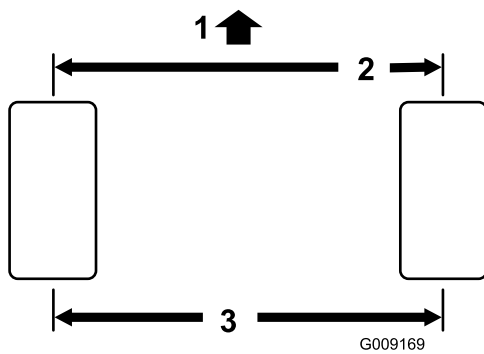

Figure 50
2. Measure the center-to-center distance (at axle height) at the front and rear of the steering tires (Figure 50). The measurement must be within 0 ± 0.12 inch (0 ± 3 mm) at the front of the tire then at the rear of the tire. Rotate the tire 90 degrees and recheck the measurement.